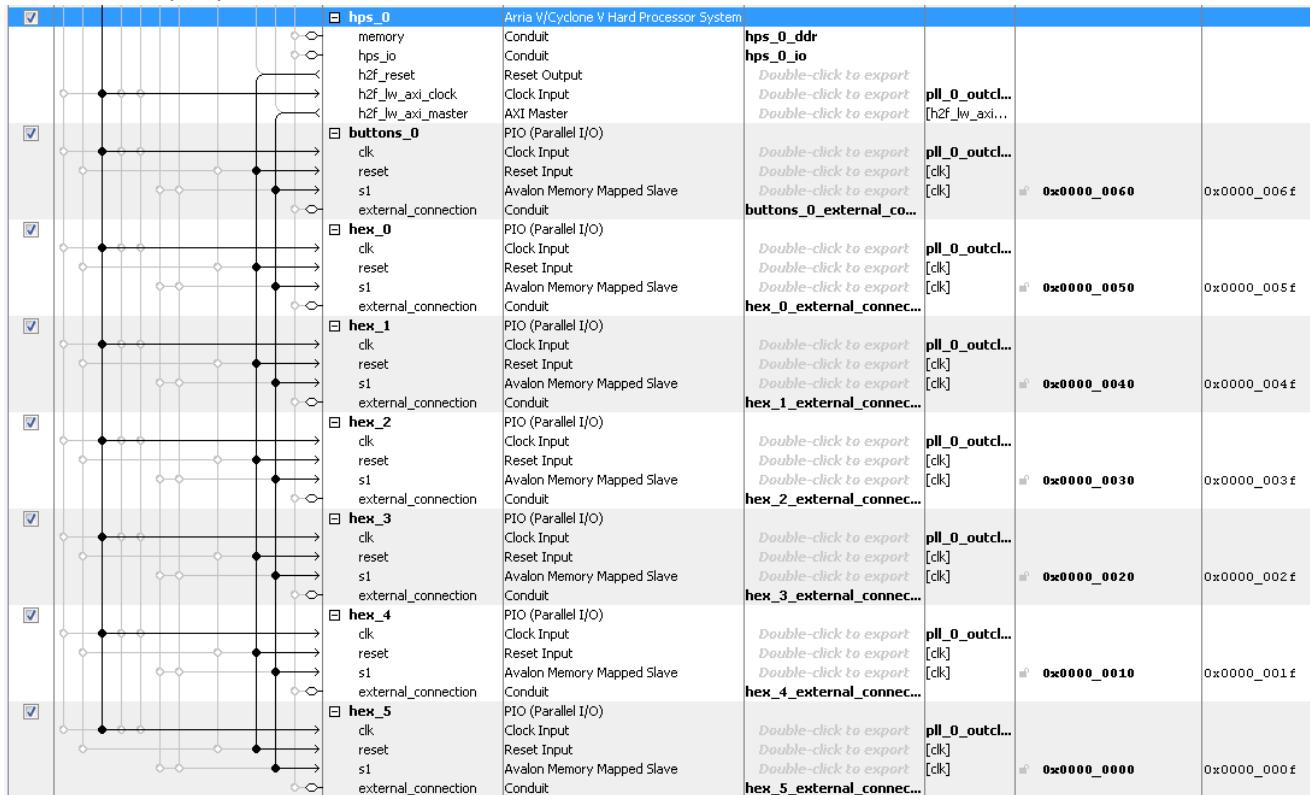

Figure 8-10. Adding Buttons and 7-segment Displays to the Lightweight HPS-to-FPGA Bridge
25. Connect the system as shown in Figure 8-10 below (we don't show the full system to make figures hold on one page). Notice that we use "hps_0.h2f_reset" as the reset signal for the components connected to the HPS. This is a design choice so we can separately reset FPGA-only peripherals, and FPGA peripherals connected to the HPS.